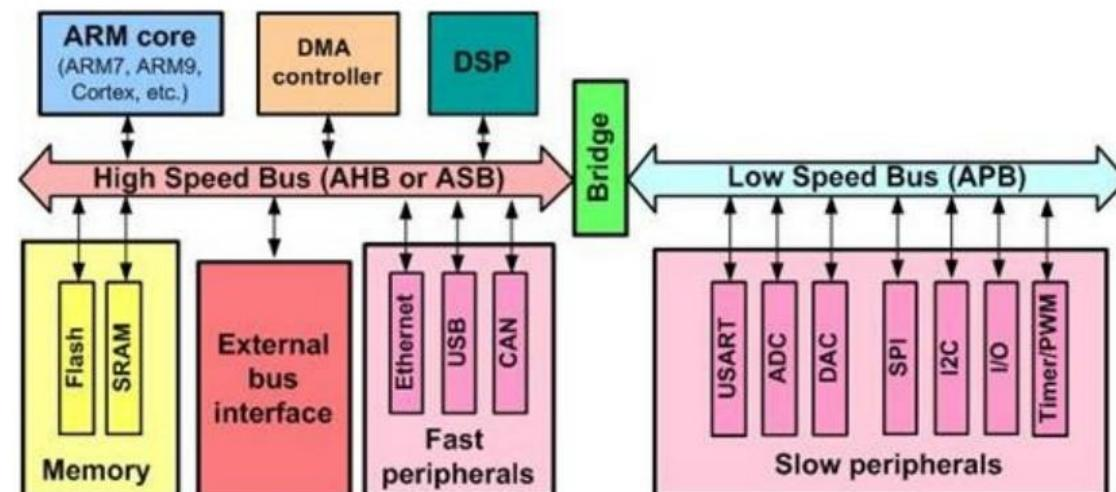

Figure 6-4: AHB and APB in ARM
- Also since peripherals do not need a high speed bus, a bridge between AHB and APB allows going from the higher speed bus of AHB to lower speed bus of peripherals. The AHB bus allows a single-cycle access. See Figure 6-4 for AHB-to-APB bridge